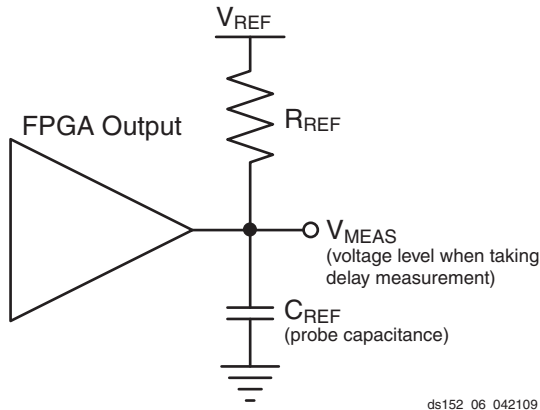
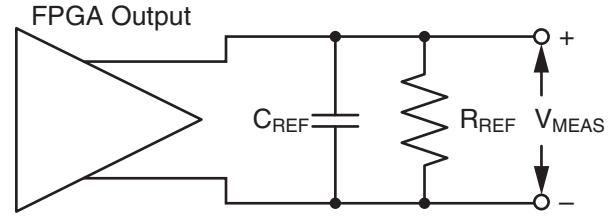

Figure 6: Single Ended Test Setup
Figure 7: Differential Test Setup
5. This is an input voltage reference that bears no relation to the V_{REF} / V_{MEAS} parameters found in IBIS models and/or noted in Figure 6.
Output delays are measured using a Tektronix P6245 TDS500/600 probe (< 1 pF) across approximately 4" of FR4 microstrip trace. Standard termination was used for all testing. The propagation delay of the 4" trace is characterized separately and subtracted from the final measurement, and is therefore not included in the generalized test setups shown in Figure 6 and Figure 7.